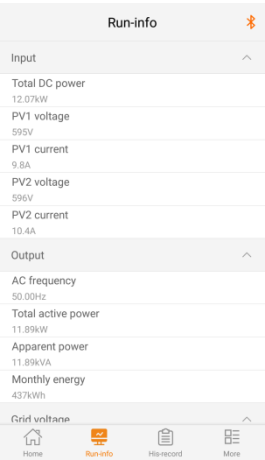

Fig. 10-6 Run info
- Step 2** The run info includes the input, output, grid voltage, grid current, environment, and other info as shown in Fig. 10-6. You can swipe up and down to check the corresponding info.